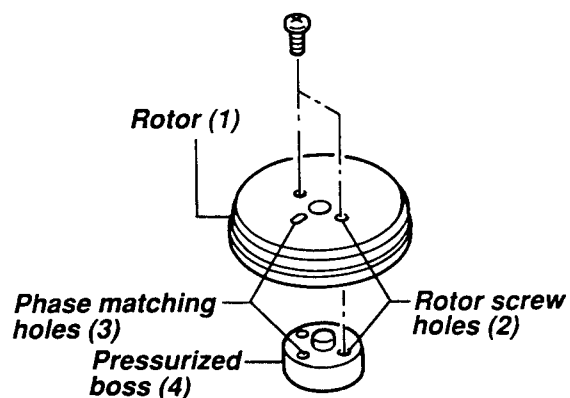

Fig. 4-2-5 Phase matching or rotor pressurized boss
When assembling a new rotor, align the two phase matching holes to fit the rotor and the pressurized boss (4) (Fig. 4-2-5).